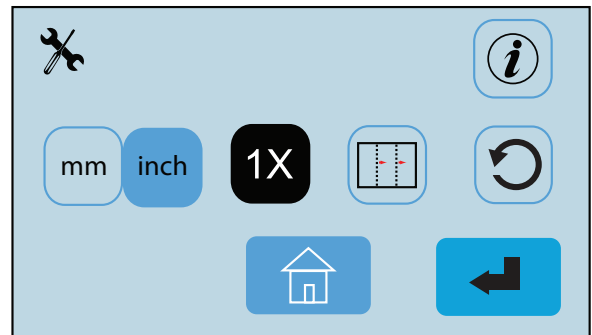
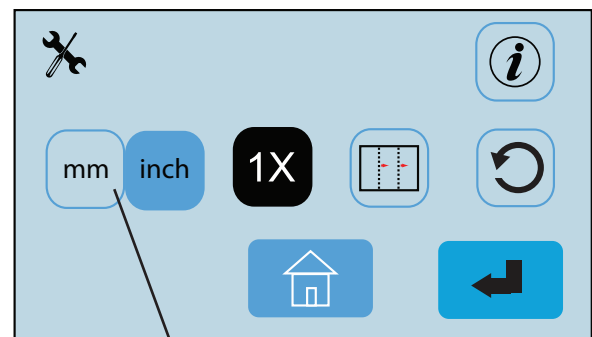

Fig. 28
Fig. 29
1. From the Operator Settings screen (Fig. 28) press the measurement setting icon  (Fig. 29) to change between settings. The icon highlights in blue is the selected setting. By changing this setting the paper sizes will change from standard to metric or vice versa.